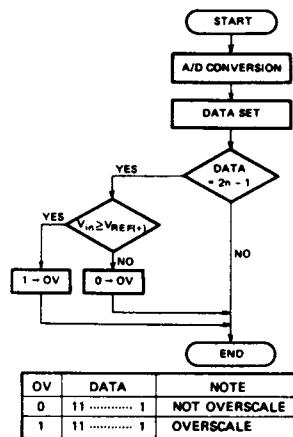
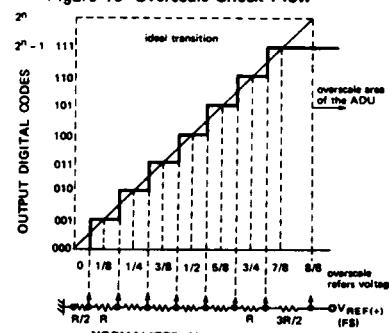

Figure 16 Overscale Check Flow
Figure 17 Definition ADU's Overscale
ADU is equipped with hardware overscale detection function. The overscale detection is performed automatically when the result of A/D conversion is  $2^n - 1$  (all bits = 1). When analog input  $V_{in}$  is higher than  $V_{REF(+)}$ , overscale bit (OV) is set to "1". The definition of the overscale is illustrated in Fig. 17. And the flow of overscale check is shown in Fig. 16.